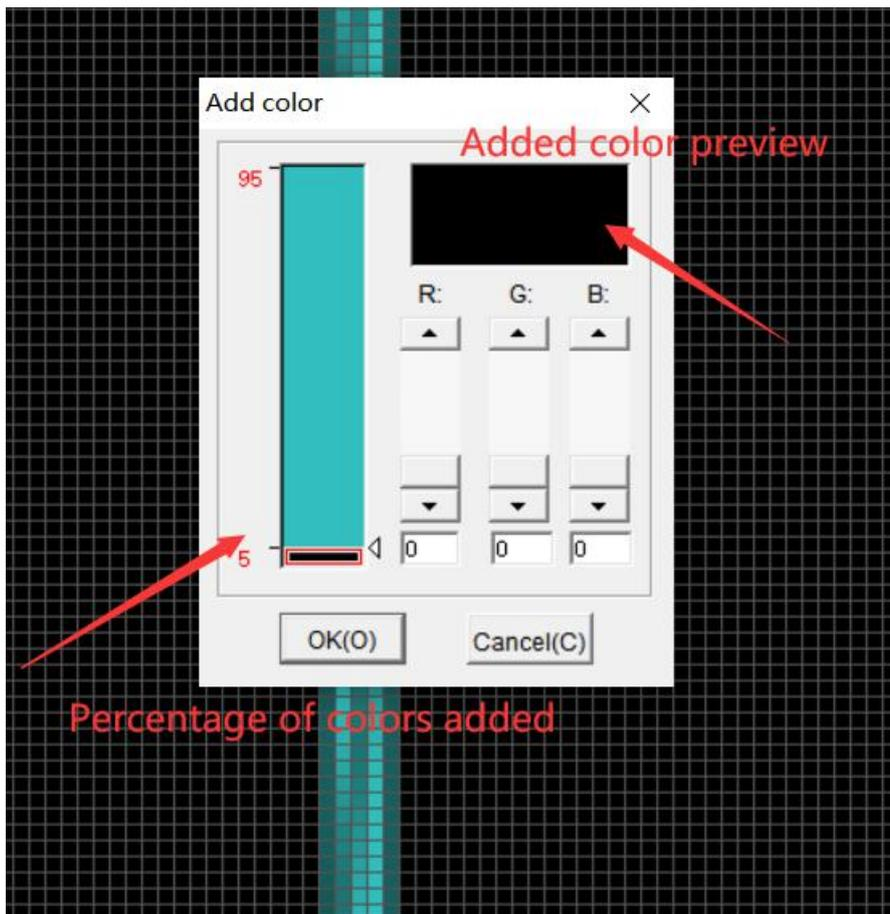

Figure 5-43 Add Color dialog box
-  Add color: The Add Color command adds the color of the yarn being edited. Click the Add Color command to pop up the Add Color dialog box (Figure 5-43):